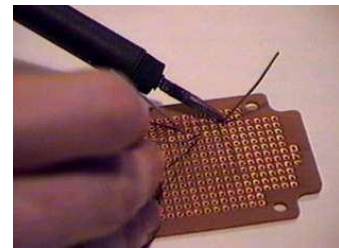

Figure 2.3: Placing the resistors on the stripboard.
3. Apply a very small amount of solder to the tip of the soldering iron (Figure 2.3). This will help to conduct the heat to the component and board, but is not the solder that will make up the joint. You are now ready to heat the resistor and board. Lay the iron tip so that it rests against both the resistor lead and the board. It may take one or two seconds to heat the component up enough to solder.